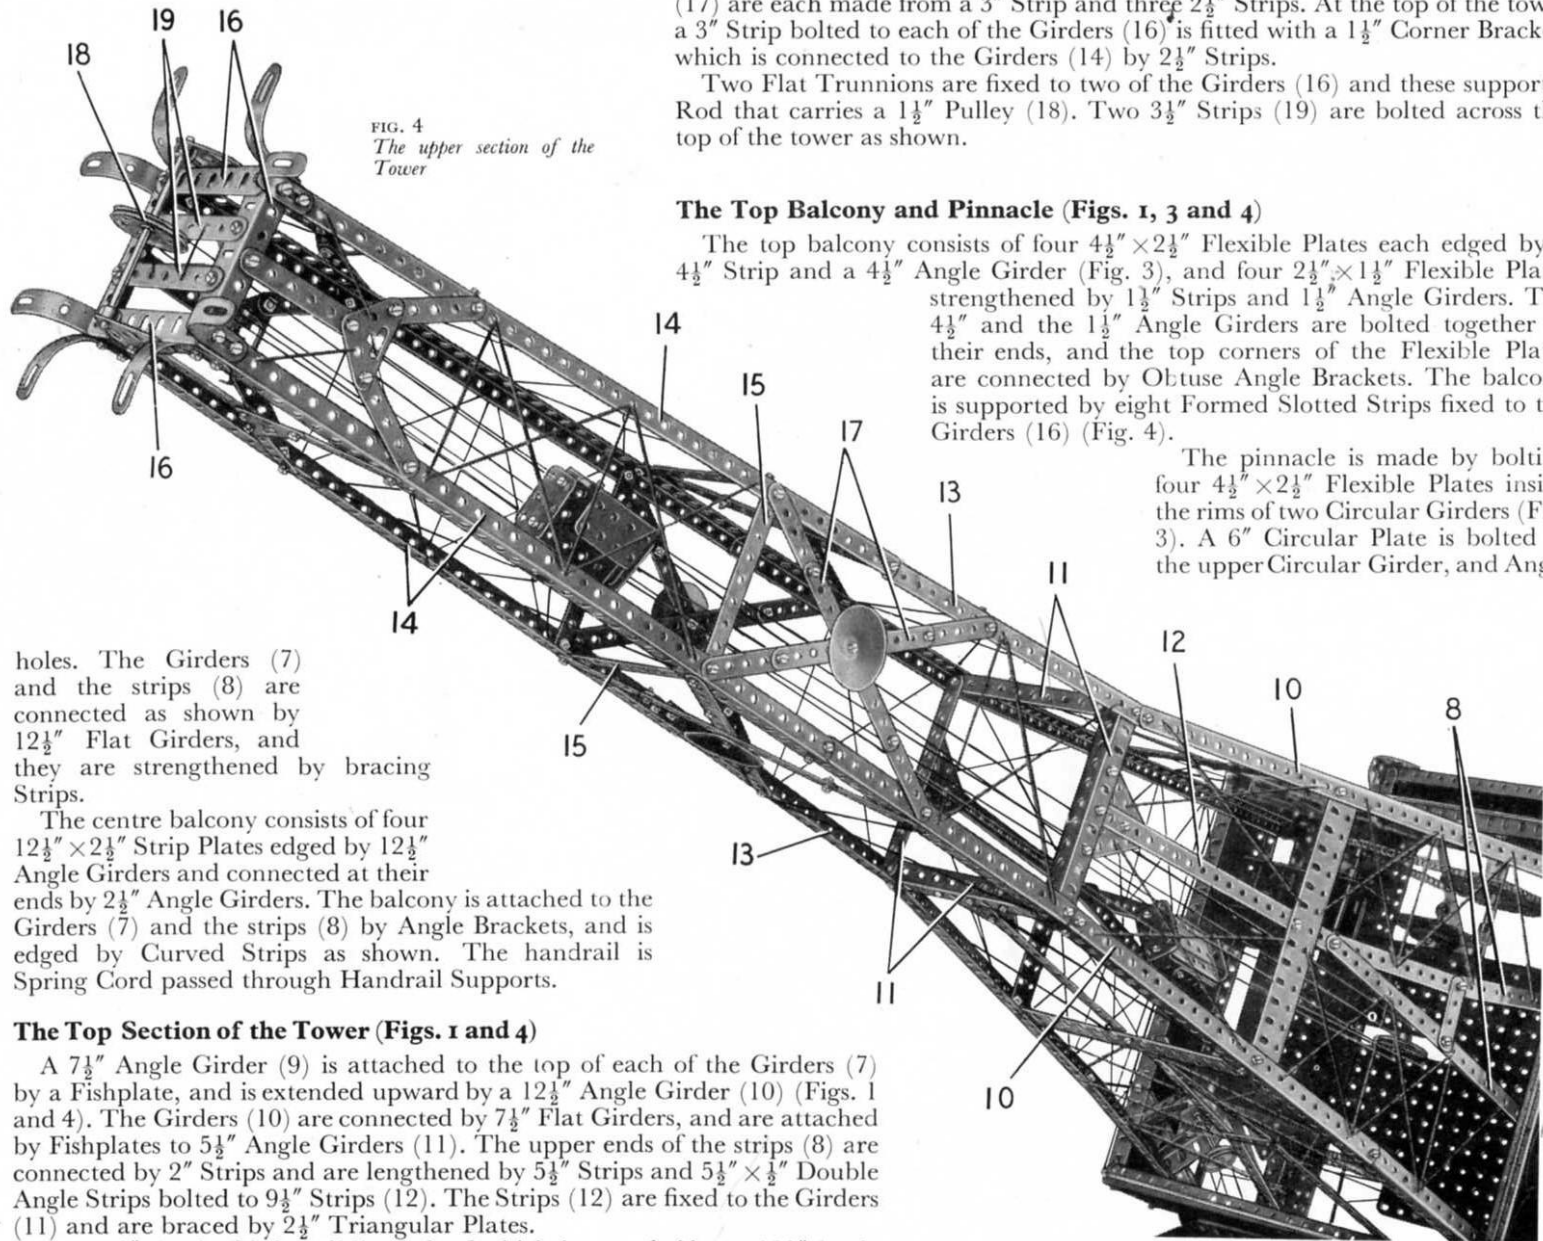
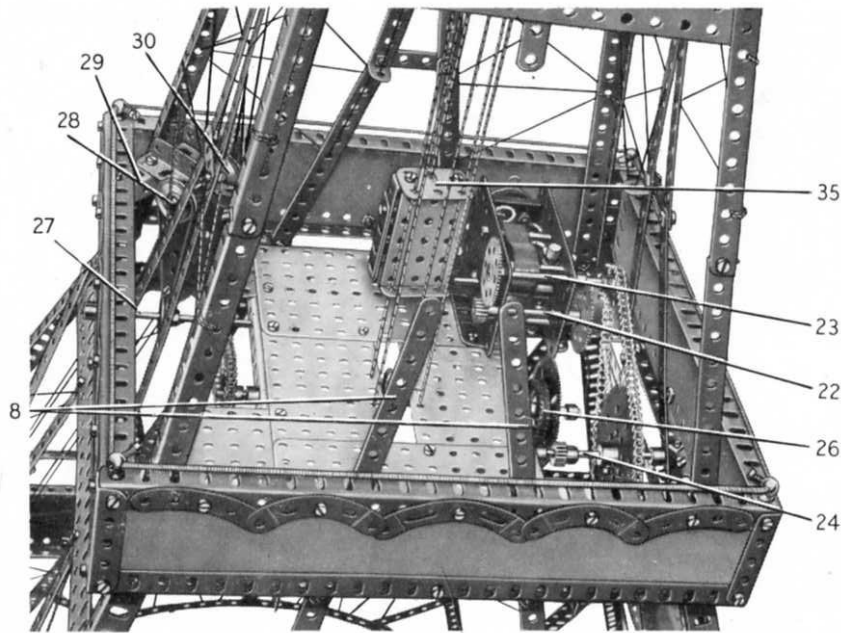
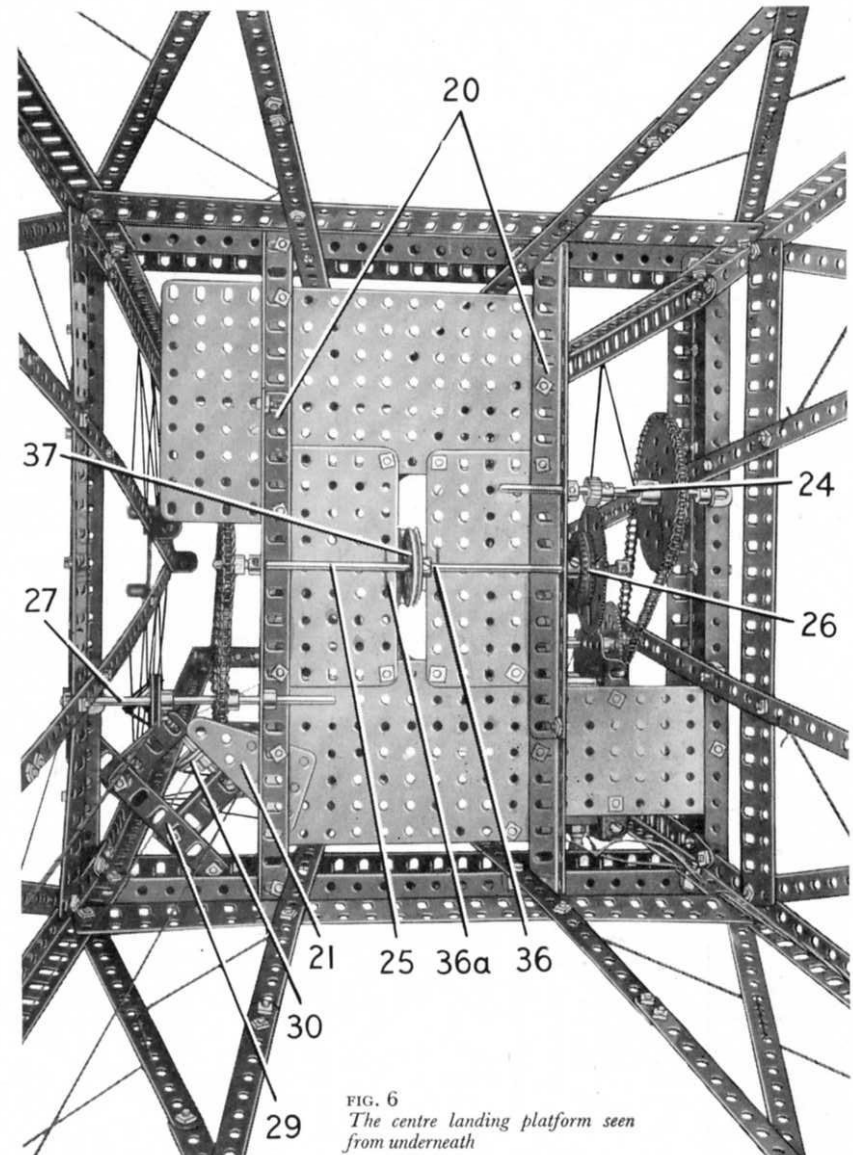

FIG. 4
FIG. 5
FIG. 6
The top balcony consists of four $4\frac{1}{2}$ " \times $2\frac{1}{2}$ " Flexible Plates each edged by a $4\frac{1}{2}$ " Strip and a $4\frac{1}{2}$ " Angle Girder (Fig. 3), and four $2\frac{1}{2}$ " \times $1\frac{1}{2}$ " Flexible Plates strengthened by $1\frac{1}{2}$ " Strips and $1\frac{1}{2}$ " Angle Girders. The $4\frac{1}{2}$ " and the $1\frac{1}{2}$ " Angle Girders are bolted together at their ends, and the top corners of the Flexible Plates are connected by Obtuse Angle Brackets. The balcony is supported by eight Formed Slotted Strips fixed to the Girders (16) (Fig. 4).
The Centre Landing Platform and Operating Mechanism (Figs. 5, 6 and 7)
Two built-up girders (20) (Fig. 6) are bolted underneath the centre balcony and to them are bolted Flat Plates as shown in Figs. 5 and 6. These Plates comprise two 5½" × 3½" Flat Plates and four 4½" × 2½" Flat Plates. A 2½" × 1½" Triangular Flexible Plate (21) is arranged as shown at one corner of the platform.
An E20R Electric Motor is bolted to the platform and a 7/16" diameter Pinion on its armature shaft drives a 60-tooth Gear on a 2½" Rod (22) (Fig. 5). A ½" Pinion on this Rod engages a 57-tooth Gear on a 3½" Rod (23), which carries also a ¾" Sprocket. This Sprocket is connected by Chain to a 3" Sprocket on a Rod (24) mounted in one of the girders (20) and in an Angle Bracket bolted underneath the balcony. A ½" Pinion on Rod (24) drives a 2½" Gear that is loosely mounted on a 6½" Rod (25). A Compression Spring is placed on this Rod between the Gear and a Collar, and it forces the Gear against a Motor Tyre (26) on a 1" Pulley fixed on the Rod. This arrangement forms a
A 1½" Sprocket on Rod (25) is connected by Chain to a ¾" Sprocket on a 5" Rod (27) (Fig. 6). This Rod is mounted in one of the girders (20) and in an Angle Bracket bolted underneath the balcony. A Driving Band is passed round
a 1" Pulley on Rod (27) and round a similar Pulley on a 2½" Rod (28) (Fig. 5). Rod (28) is supported in two 2" Angle Girders bolted to a built-up girder (29). The girder (29) consists of a 3" Angle Girder and a 1½" Angle Girder bolted together. A 1" Pulley (30) is fixed on Rod (28).
The two lifts that operate between the centre platform and the top of the tower are each made by bolting two 2½" × ½" Double Angle Strips between the flanges of a 2½" × 1½" Flanged Plate. A Girder Bracket is fixed to one Double Angle Strip, and a 1½" Flat Girder (35) (Fig. 5) is bolted to each flange of the Flanged Plate. The guide Cord for the lifts is tied to one of the Strips (19) (Fig. 4), is passed through the Flat Girders (35) of one lift, and through the second stage platform as indicated at (36) (Fig. 6). The Cord is passed through the Flat Girders (35) of the second lift and is taken through holes in the Strips (19) before it is again passed through the Flat Girders of the second lift. The Cord is then taken through the centre platform at (36a) (Fig. 6) and is tied to one of the Strips (19).
The operating Cord for these lifts is tied at one end to a Tension Spring placed inside one of the lifts. The Cord is passed through the top 1½" Flat Girder of this lift, round the Pulley (18) and through the top 1½" Flat Girder of the second lift, where it is tied to another Tension Spring. A length of Cord fastened to the lower end of this Spring is passed through the bottom 1½" Flat Girder, is taken round a 1½" Pulley (37) (Fig. 6) on Rod (25), through the bottom of the second lift and is tied to the lower end of the Spring in this lift.